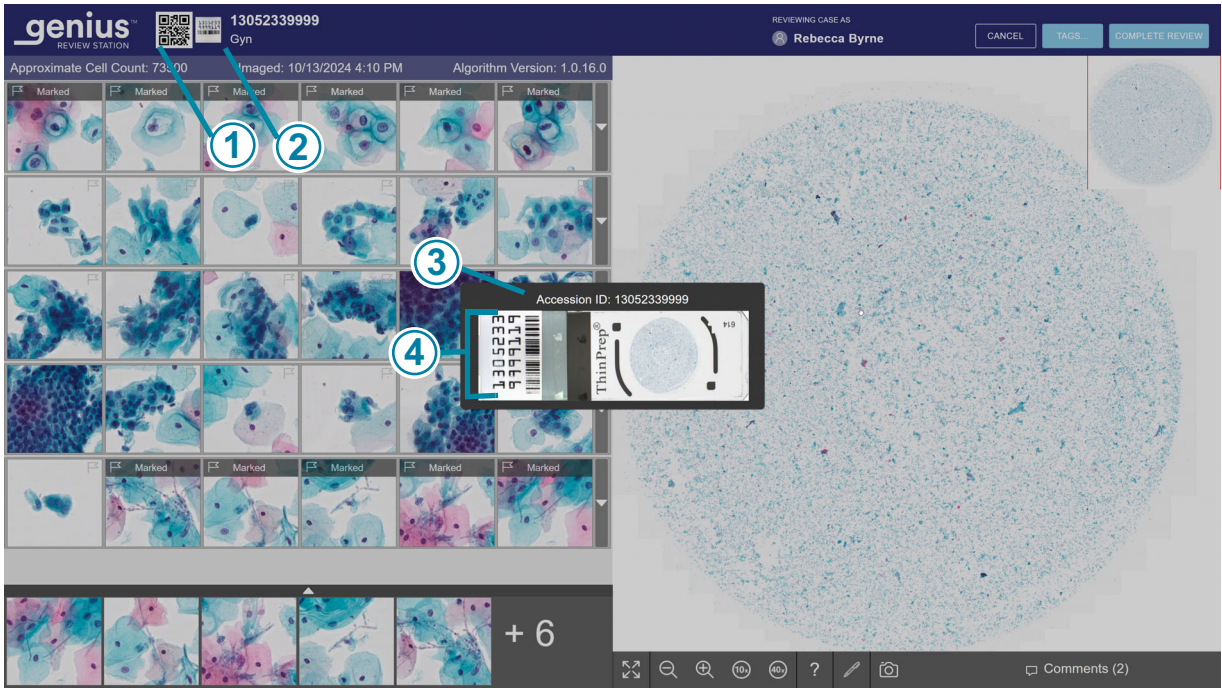

Figure 4-4 Macro Image Shows Slide Label Area, Example of a Case with Genius Cervical AI
①	<p>Accession ID and macro image of the slide label area The Review Station displays the Accession ID as text and as a QR code.</p> <p>To see the macro image of the slide, click on the macro image of the slide label area. Refer to Figure 4-4.</p> <p>To see a larger image of the QR code, click on the QR code.</p> <p>To scan the Accession ID with an optional barcode scanner, scan the macro image of the slide, the smaller QR code of the Accession ID, or the larger image of the QR code.</p>
②	<p>Above the gallery, the approximate cell count, date the slide was imaged, and algorithm version display. Refer to “Cell count, date and algorithm version” on page 4.11 for more details.</p>
Key to Figure 4-4